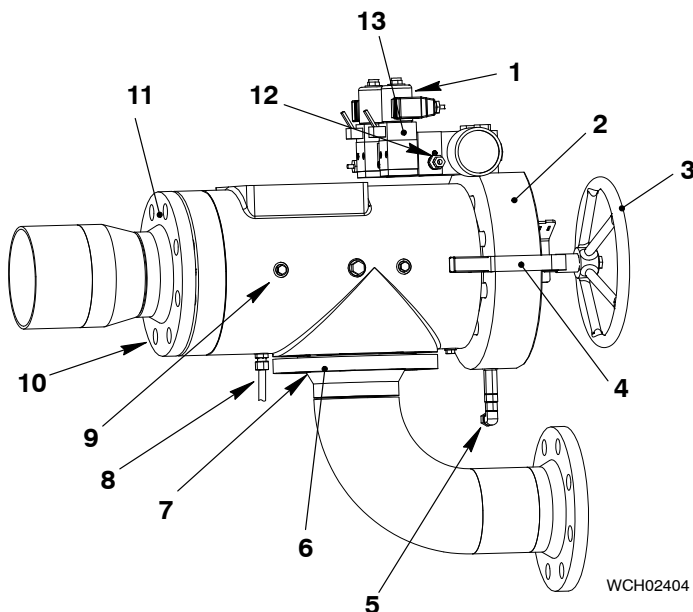

Fig. 5
- 22) Put the assembled shut-off valve in position as shown in Fig. 5.
- 23) Attach the flange (11) to the valve guide with the eight M24x100 screws (10).
- 24) Torque the eight M24x100 screws (10) to the value given in 0352 1, paragraph 1.
- 25) Attach the flange (6) to the shut-off valve with the eight M24x55 screws (7).
- 26) Tighten the eight M24x55 screws (7) to the value given in 0352 1, paragraph 1.
- 27) Attach the check-pipe (8) to the pipe connection on the valve body.
- 28) Attach the control air pipe to the pipe connection (12).
- 6) Make sure that air flows from the bore of the screw plug (9). When air flows, the manual function of the shut-off valve operates correctly.
- 7) Operate the handwheel (3, Fig. 5) to move the shut-off valve to the position AUTOMAT. Make sure that the lever (4) engage with the groove in the spindle.
- 8) Make sure that no air flows from the bore of the screw plug (9). When no air flows, the automatic function of the shut-off valves operates correctly.